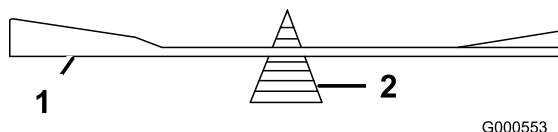

Figure 52
2. Check the balance of the blade by putting it on a blade balancer (Figure 52).